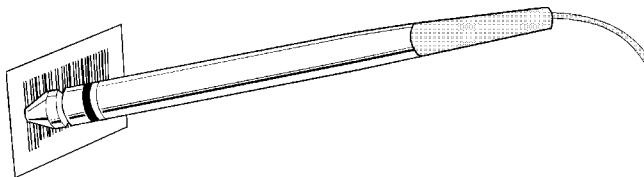

Figure 12
2. Place the tip of the bar code wand to the left or right of the bars in the bar code label. Ensure that the reader touches the label and is within 30° of vertical in any direction (see Figure 12 on p. 94).